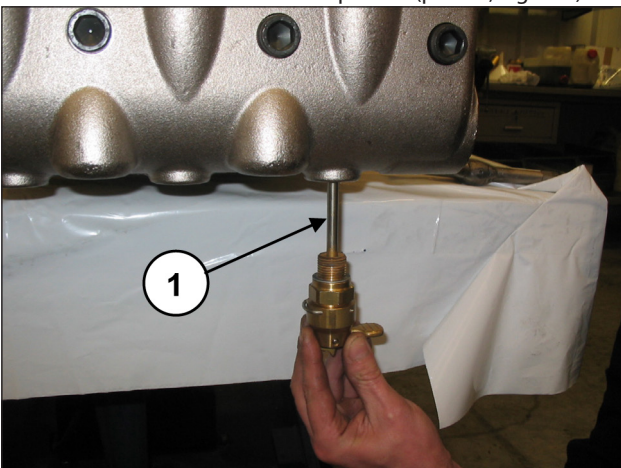
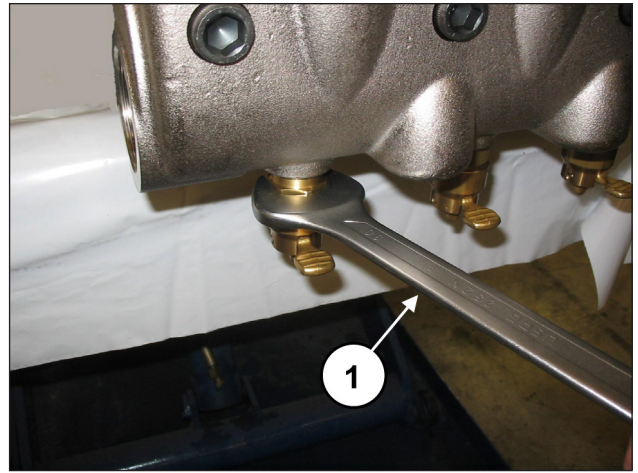

Fig. 136
Fig. 137
Apply the valve opening devices (pos. ①, Fig. 136) and screw them in with the use of a 30 mm spanner (pos. ①, Fig. 137).